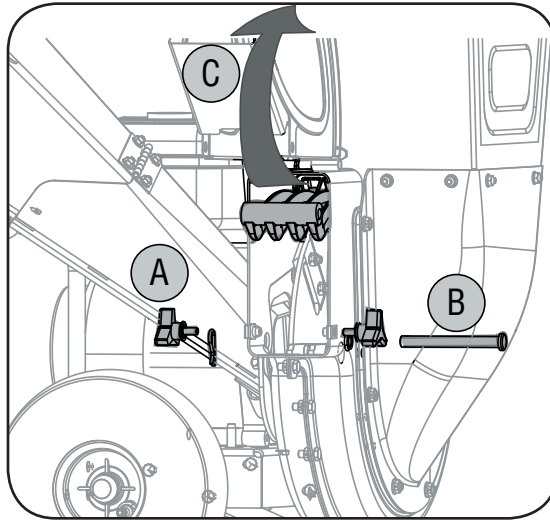

Figure 8
2. a. If attached, remove debris bag. Remove the two wing knobs on either side of the chute deflector and pivot the chute deflector upward. See Figure 8.
b. Remove the hairpin clip from the clevis pin which extends through the housing and shredder screen. See Figure 8. Remove clevis pin.